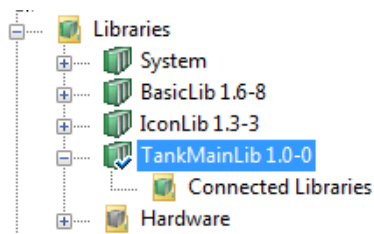

Figure 62. Library with sub folders
2. To the library (see Figure 62), add the following: